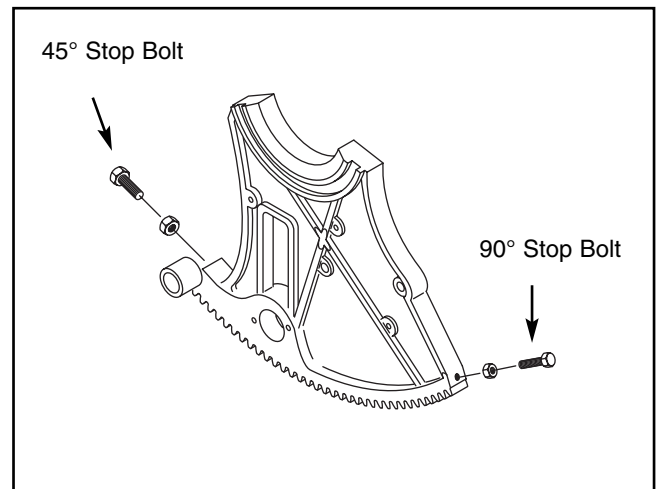

Figure 20. 90° and 45° stop bolts.
3. Adjust the handwheel until the square is flush with the blade. Loosen the tilt indicator arrow, set to zero, and retighten. Loosen and adjust the stop bolt on the left side of the front trunnion to allow a 90° stop point. See **Figure 20**.
6. Repeat **Steps 1-6** for setting the blade to 45° and adjust the 45° stop bolt on the right side of the front trunnion. See **Figure 20**. Use the 45° side of a combo square or a bevel gauge set at 45° .